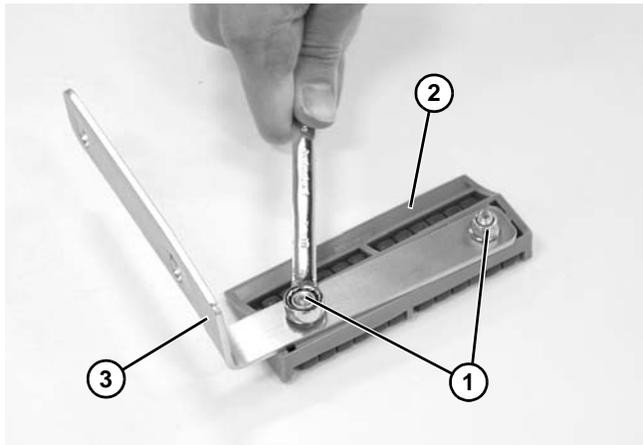

Figure 82
2. Remove two nuts and washers (**Figure 82, item 1**) and roller transfer assembly (**Figure 82, item 2**) from mounting bracket (**Figure 82, item 3**).